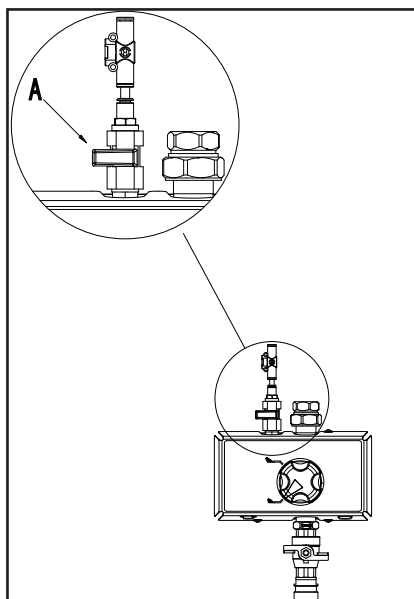

Fig. 7 110002092
1. Check that water- and air supplies for the system are open. (see A, Fig.7, air). Activate central chemical supply if present.
2. Close the air supply (A, Fig. 7)